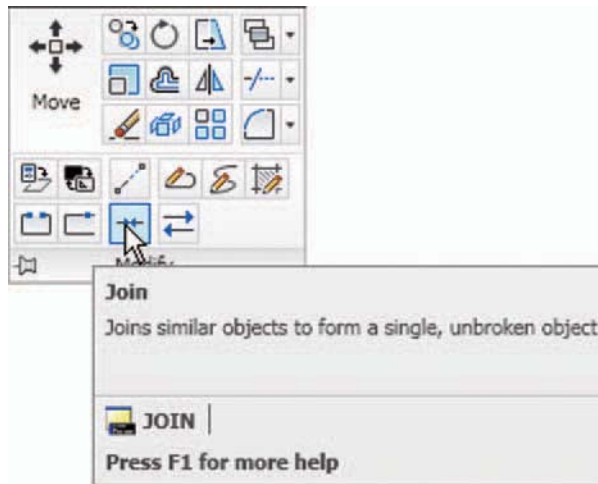

Fig. 5.37 The Join tool icon from the Home/Modify panel
2. Call the **Join** tool – either *click* on the **Join** tool icon in the **Home/Modify** panel (Fig. 5.37), *left-click* its tool icon in the **Modify** toolbar, select **Join** from the **Modify** drop-down menu, or *enter* **join** or **j** at the command line. The command line shows: